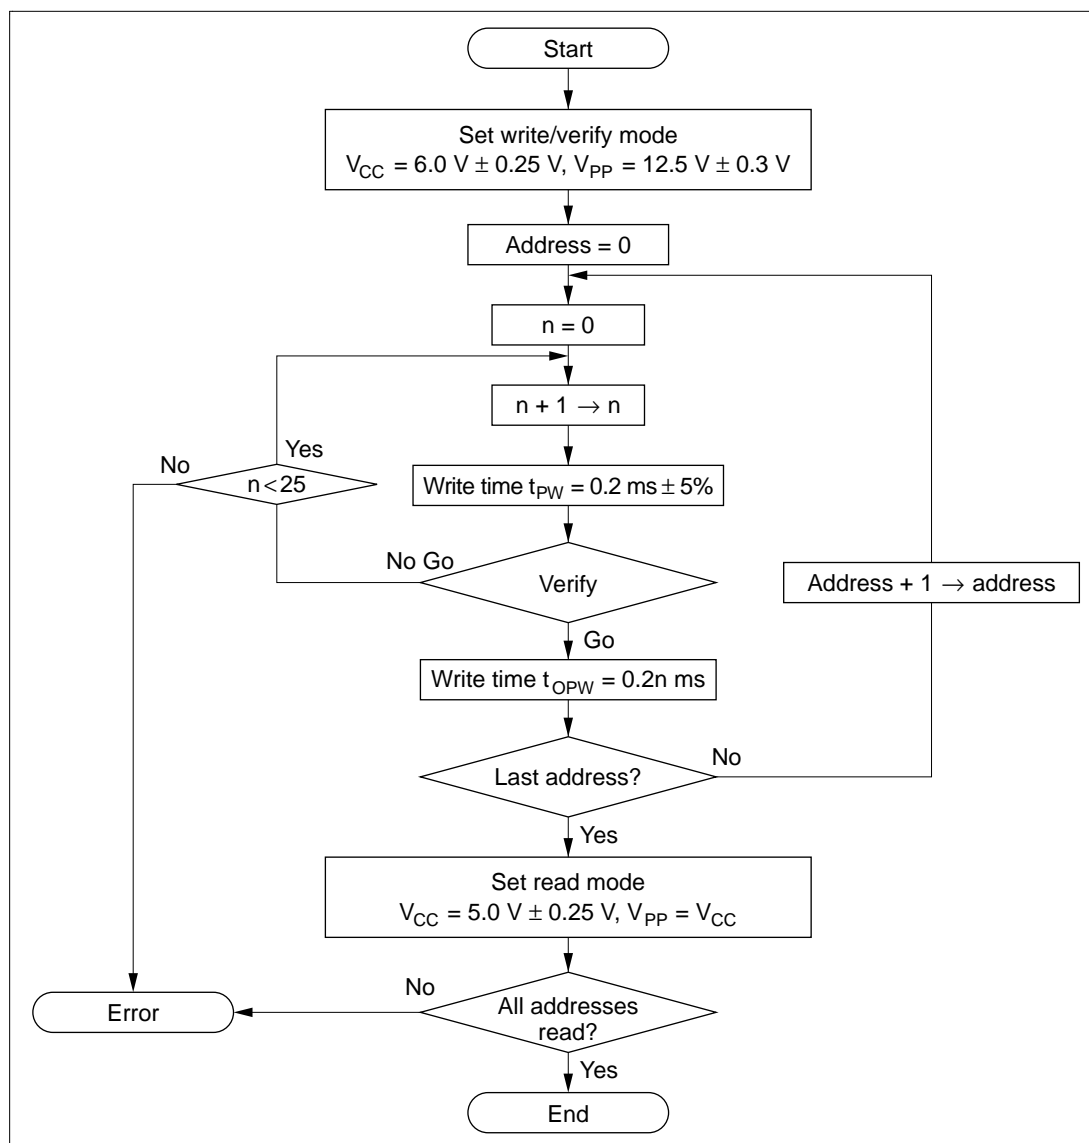

Figure 6.8 High-Speed, High-Reliability Programming Flow Chart
An efficient, high-speed, high-reliability method is available for writing and verifying the PROM data. This method achieves high speed without voltage stress on the device and without lowering the reliability of written data. The basic flow of this high-speed, high-reliability programming method is shown in figure 6.8.
3. t_{OPW} is defined by the value given in figure 6.8 high-speed, high-reliability programming flow chart.